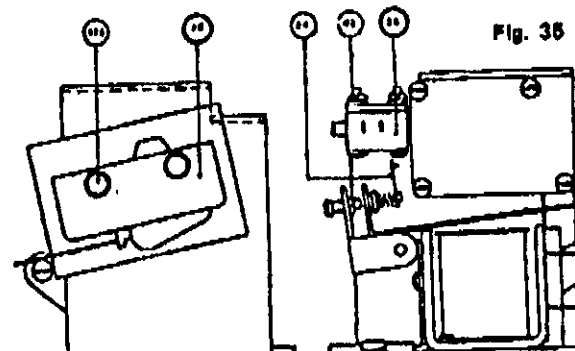

Fig. 35
- L. Undervoltage and Shunt Trip Limitswitch (Fig. 35).
1. Limitswitch for trip indication. To remove the limitswitch (28) for indicating tripping by undervoltage or shunt tripping, break connections and remove screws (178). When replacing limitswitch, follow adjustment instructions outlined in Chapter IV, Limitswitch On Voltage Release.